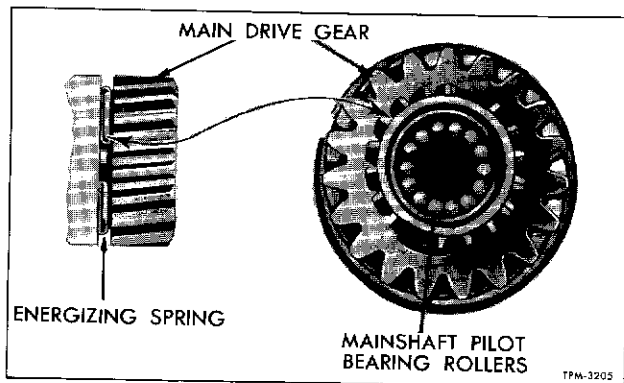

Figure 9—Energizing Spring Installed on Main Drive Gear
1. It will be noticed upon examining these springs that one of the ends is slightly offset. Each spring must be assembled in its groove in the main drive gear and the second speed gear with the offset or locking end between the third and fourth teeth of either of the two banks of teeth on these gears, thus keeping the spring from turning in its groove (fig. 9).